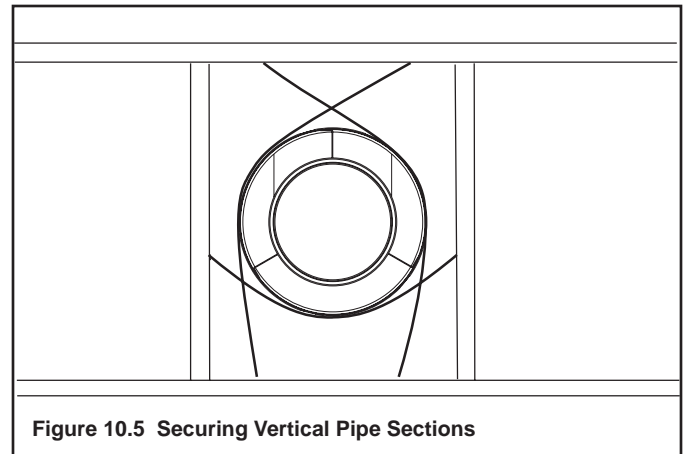

Figure 10.5 Securing Vertical Pipe Sections
- Vent supports or plumbers strap (spaced 120° apart) may be used to support. See Figures 10.5 and 10.6.